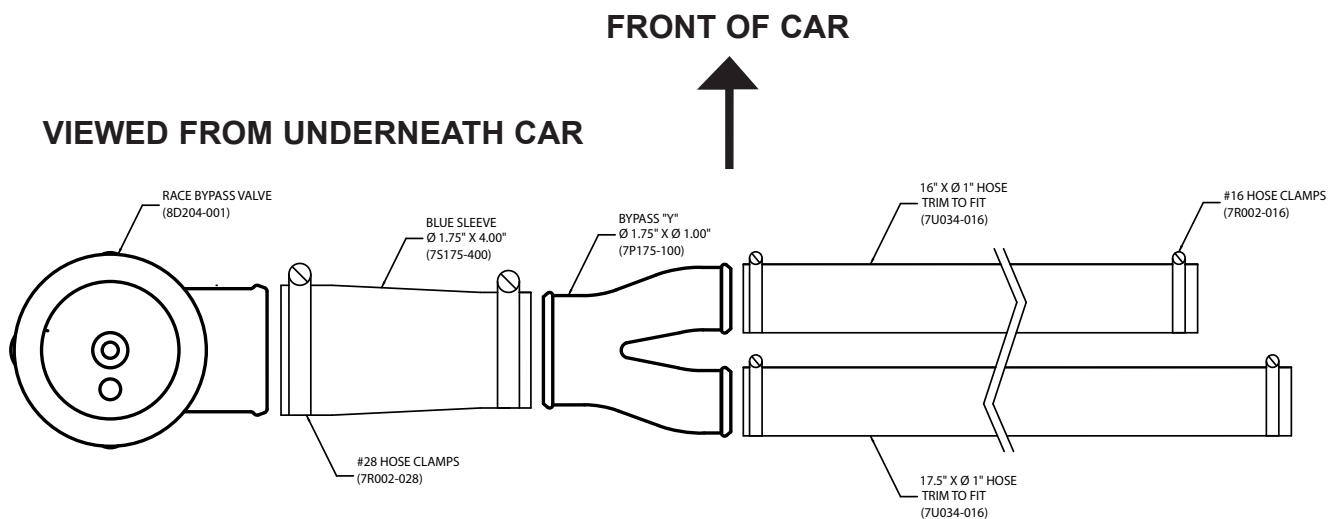

Fig. 8J
1. Assemble the bypass using the supplied Maxflow Race Bypass valve, \varnothing 1.75" silicone coupler with two #28 hose clamps, Bypass "Y", and two lengths of 1" hose cut to lengths of 16" and 17.5" with four #16 hose clamps. (See Fig. 8J)